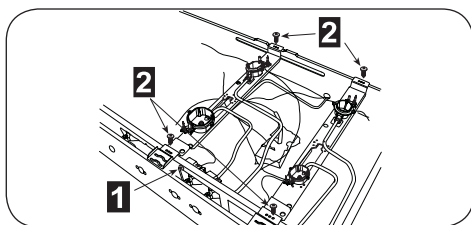

Fig. 12
- Unscrew the screws **2** (fig. 12) which lock the crosspieces.
- Unscrew the screws **1** (fig. 12) which unite the the bridles of the taps to the front frame.